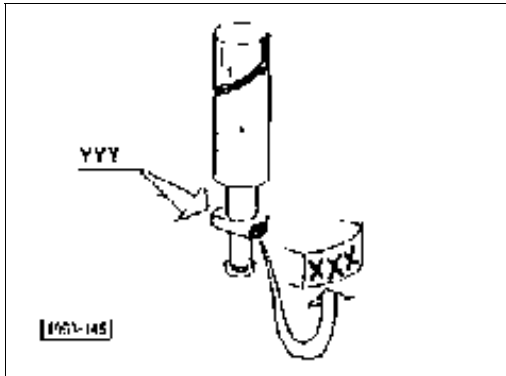

Fig. 11 - Injection pump plunger identification marks.
N.B: new plungers can be identified from the markings in the positions shown in figure 11.